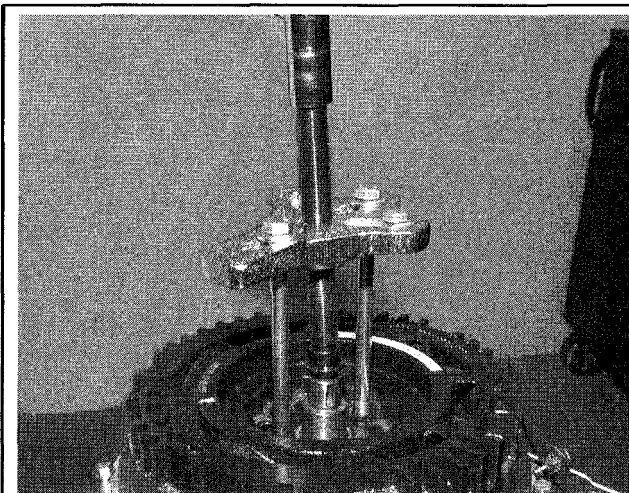

Fig. 82 A universal puller usually makes flywheel removal much easier
◆ See Figures 82 and 83
- ◆ See Figures 82 and 83